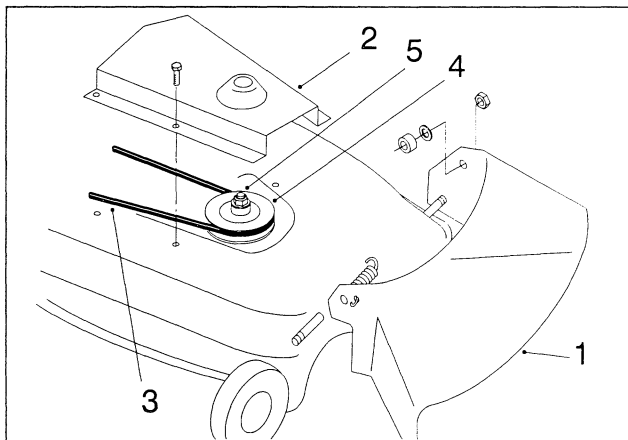

Figure 1
2. Remove the grass deflector and belt cover from the mower (Fig. 1). Save both the deflector and the belt cover for use if you remove the bagger later and want to discharge grass to the side.